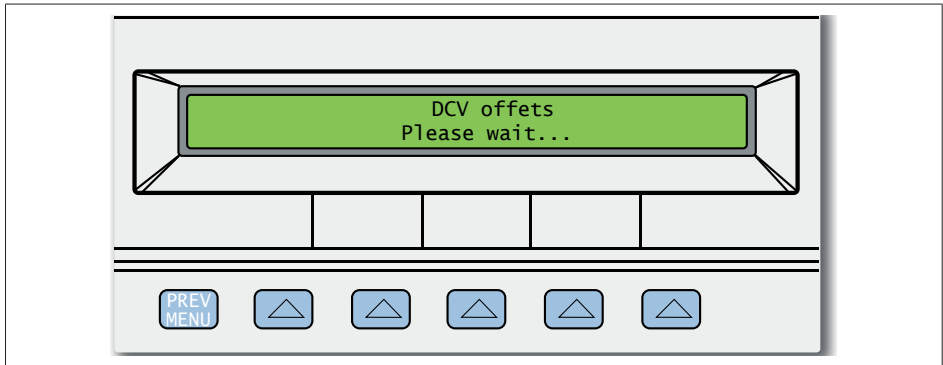

Fig. E.18 Fluke 5522A Zeroing message
8. The Fluke 5522A Zeroing status message appears; please wait until Zero calibration is finished (see Fig. E.18).